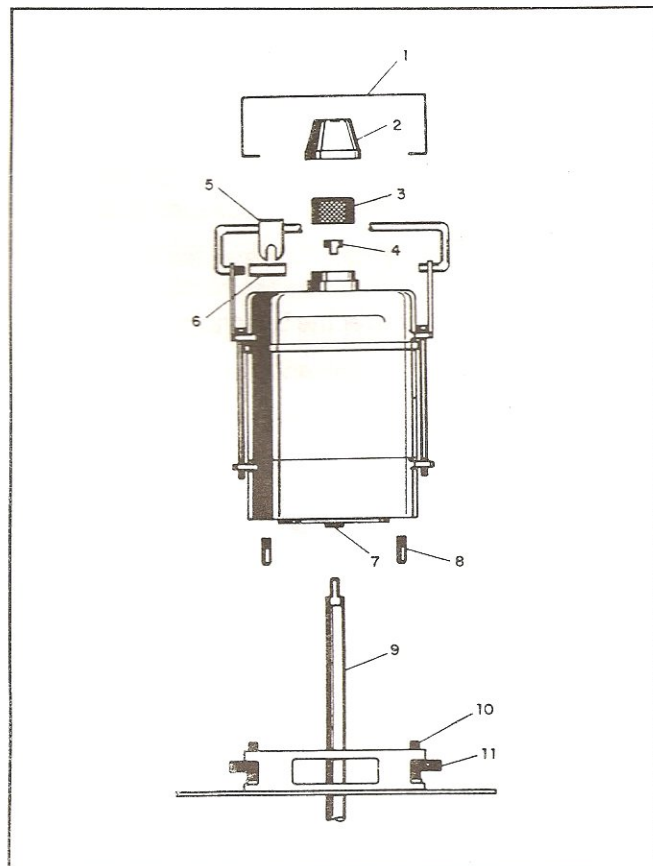

Figure 17. "QH" Series Motor
C. "QH" Series Motor (Figure 17):